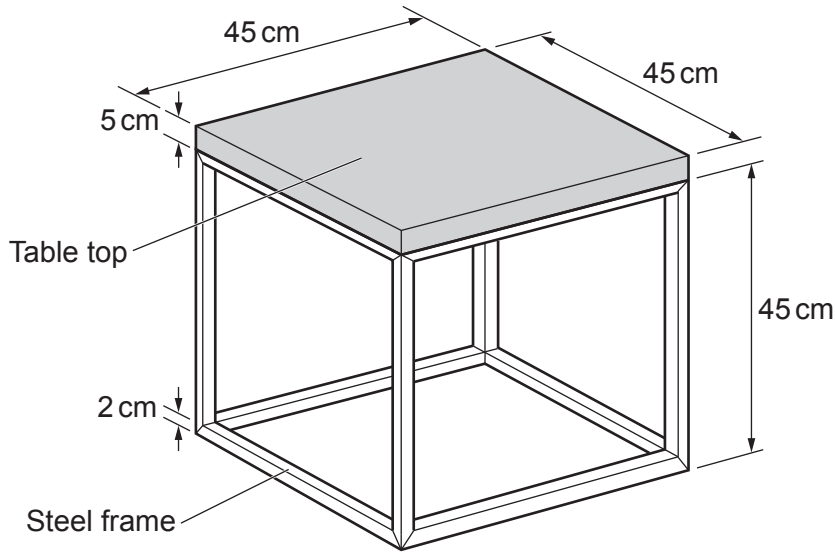

Fig. 2
Fig. 2 is repeated below.
(d) The side table shown in Fig. 2 is packaged in a cardboard box.
- (e) Complete the working drawing to show the plan and side view of the side table shown in Fig. 2.